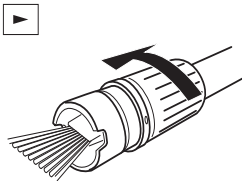

Fig. 7, fan spray
Turn the pressure nozzle (1a) to adjust the water jet of the pressure lance (1) according to the surface you want to clean. The arrow on the pressure nozzle points the adjusted application indicated with symbols on the nozzle (Fig. 7, 8).